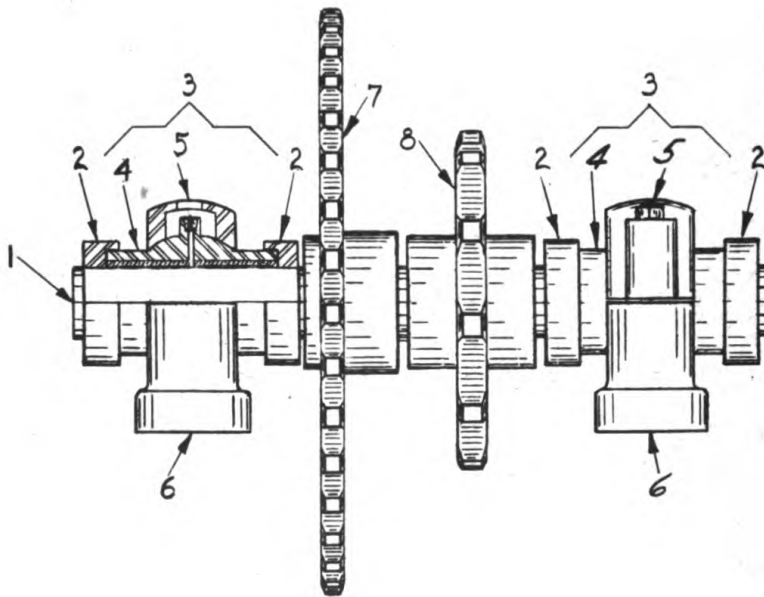

FIGURE 109
1. Loosen set screws in collar (2) Fig. 109, remove collar.
2. Bearing (3) is loose on shaft.
3. Loosen set screws in collar (2), remove collar.
4. Loosen set screws in hub of sprocket (7), remove sprocket.
5. Loosen set screws in hub of sprocket (8), remove sprocket.
6. Loosen set screws in both collars (2), and remove collars and bearings (3).